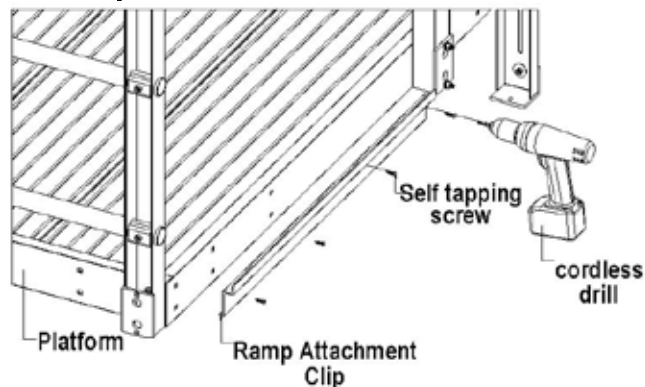

Fig.3.22
3.9 Ramp to Platform Attachment: When the opening sides of the platform have been determined, attach the ramp attachment bracket to the platform base using self-tapping screws, space the ramp attachment clip centered to the opening of the platform being used (**Fig.3.22**). Now it is time to assemble ramp sections, continue to **section 4**.